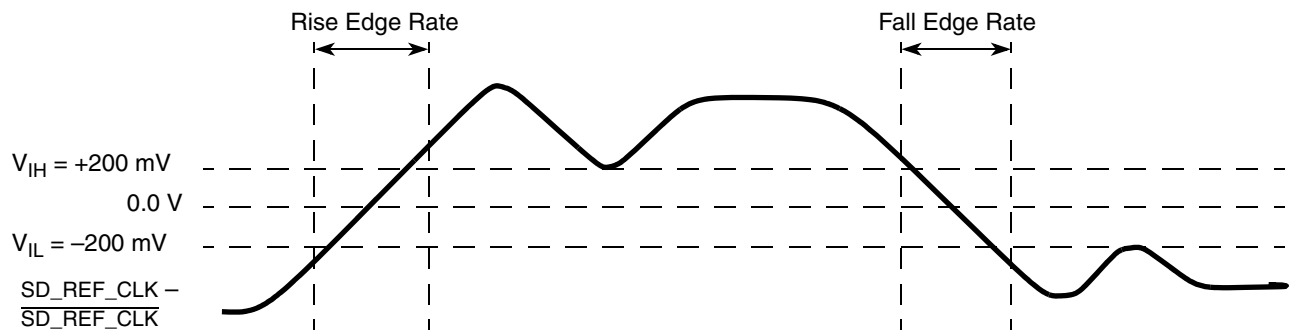

Figure 52. Differential Measurement Points for Rise and Fall Time
1. The differential waveform is constructed by subtracting the inverting signal ($\overline{SDn_TX}$, for example) from the non-inverting signal (SDn_TX , for example) within a differential pair. There is only one signal trace curve in a differential waveform. The voltage represented in the differential waveform is not referenced to ground. Refer to Figure 52 as an example for differential waveform.
3. Measured from -200 mV to +200 mV on the differential waveform (derived from $\overline{SDn_REF_CLK}$ minus SDn_REF_CLK). The signal must be monotonic through the measurement region for rise and fall time. The 400 mV measurement window is centered on the differential zero crossing. See Figure 52.